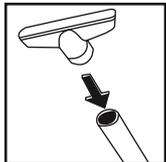

Fig. 5
5. Insert the coupling end of the hose in the vacuum cleaner port in the front of the tank and secure in place. Press the accessory in the free end of the hose or extension. (Fig. 5)